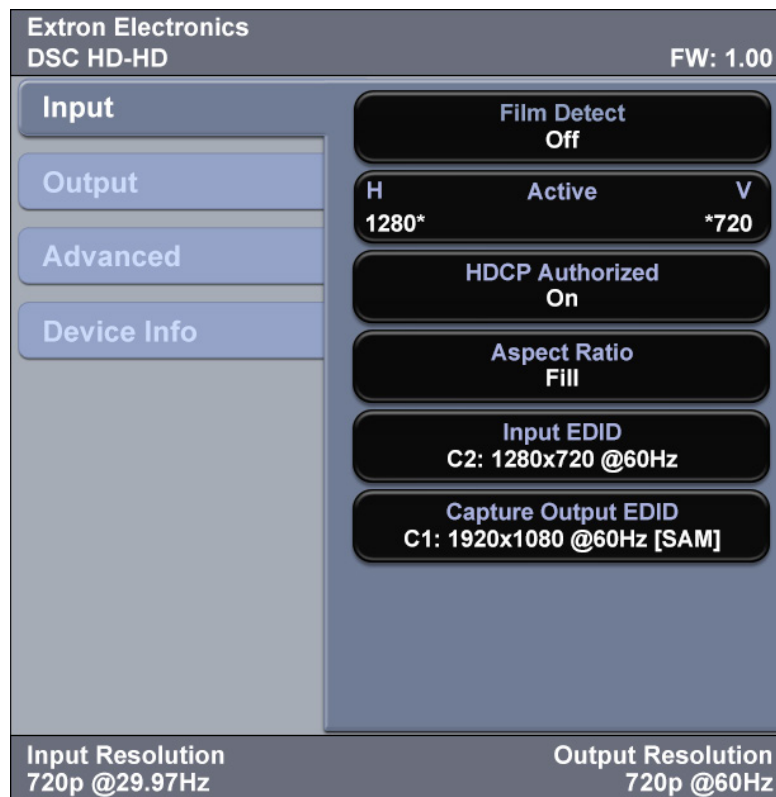

Figure 9. OSD Main Menu, Initial View
1. Press the **Menu** button once to open the main menu on the display. The menu opens with the **Input** submenu displayed and the submenu name highlighted (see figure 9).